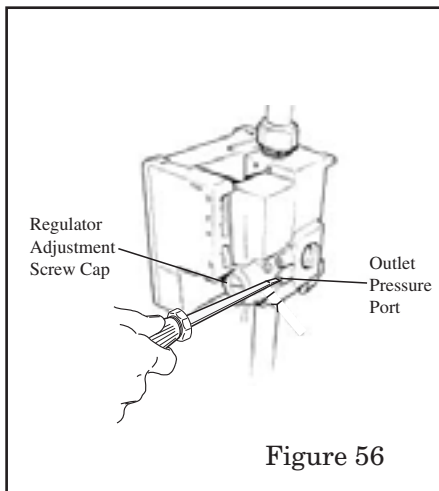

Figure 56
- Open outlet pressure port located in gas valve. (To open valve, use a screwdriver) See Figure 56.
i) Remove the manometer flexible tubing from outlet pressure port and close the outlet pressure port using a screwdriver. See Figure 56.